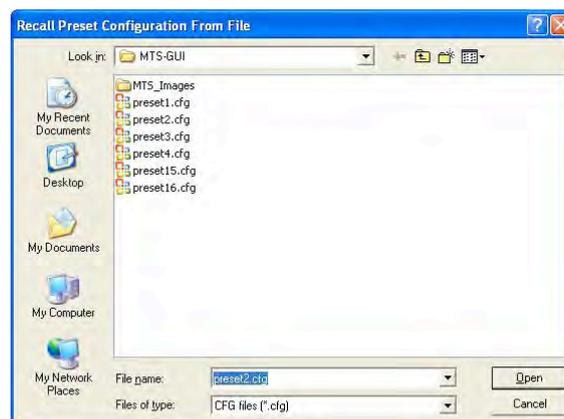

Figure 4-14: Recall Preset from File Menu
- The “Recall from File” is a two-step process where the data is pulled from the *.cfg file into computer RAM and then the user presses “Store” to save the settings to the desired preset. This enables common values to be copied between presets. See Figure 4-14 below.